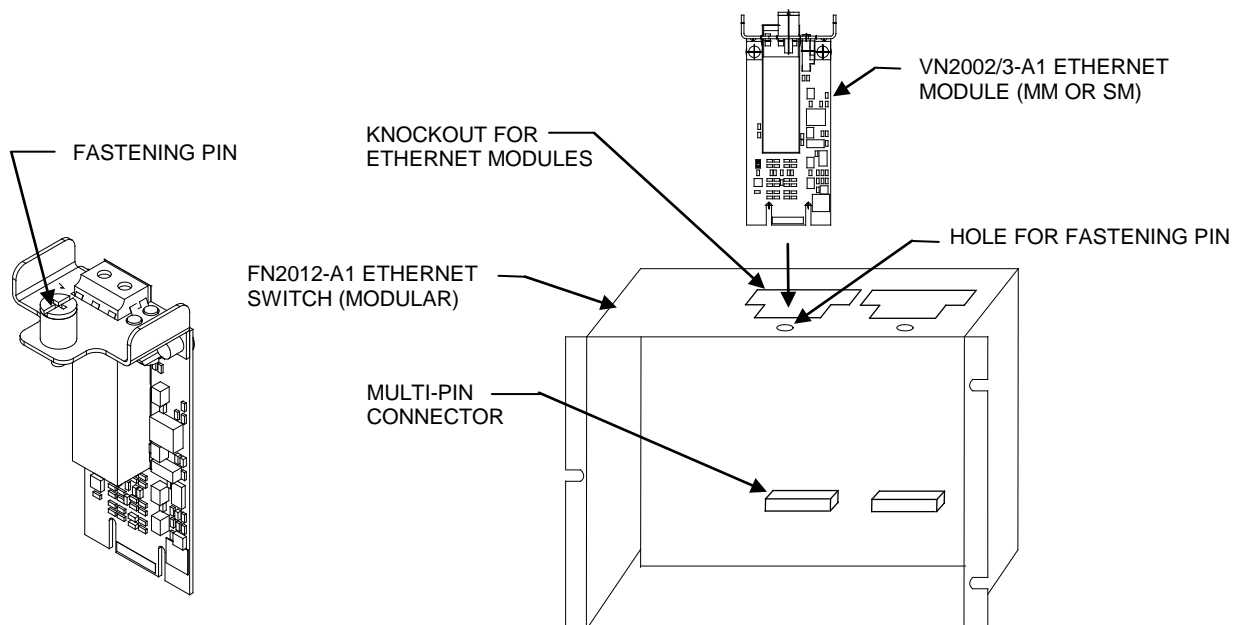

Figure 6
8. Tighten the fastening pin on the top of each module (see Figure 6) by turning it clockwise until the modules are firmly held in place by the Card Cage.
2. Please refer to Figure 6. If necessary, remove the knockouts in the side panel of the FN2012-A1 Ethernet Switch (modular).